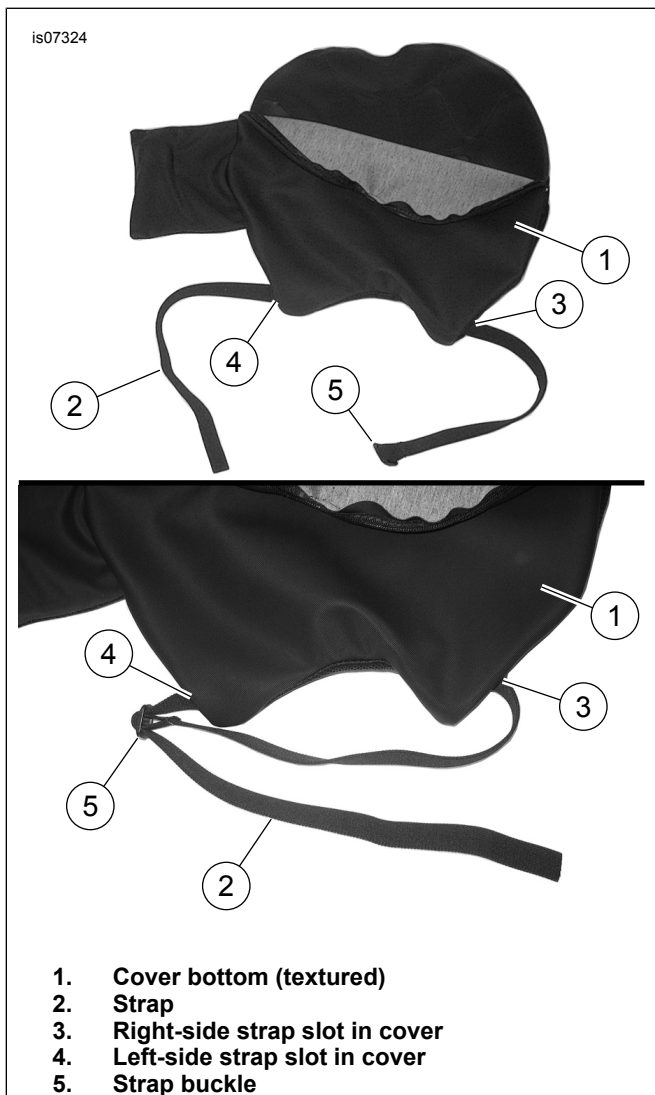
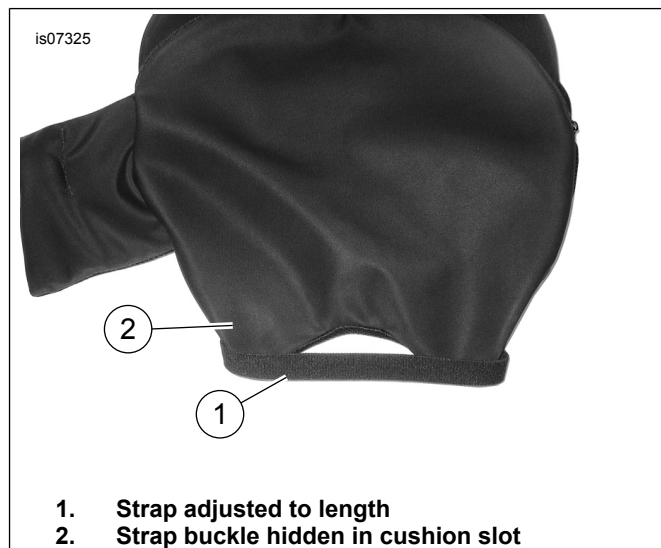

Figure 3. Strap Installation, Large Cushion
Figure 4. Adjust Strap Length and Hide Buckle, Large Cushion
5. See Figure 3. Flip the assembly over so the textured bottom (1) is facing upward. Note slots (3) and (4) in the front sides of the cover.
6. With one hand, reach inside the cover, between the cover bottom (1) and the bladder flat base. Find one of the slots (3). Start feeding the strap (2) end opposite the buckle (5) through the slot from outside the cover.
7. Feed the strap through the cover. Avoid twisting. Align the strap from inside the cover with the opposite slot (4), and feed the strap through the slot to the outside.
8. Position the strap in the cover slots with the buckle (5) near one of the slots. Buckle the strap.
9. See Figure 4. Adjust the strap length for cushion installation to the specific seat. To determine correct strap length, refer to **"Cushion Installation to Seat"**, later in these instructions.